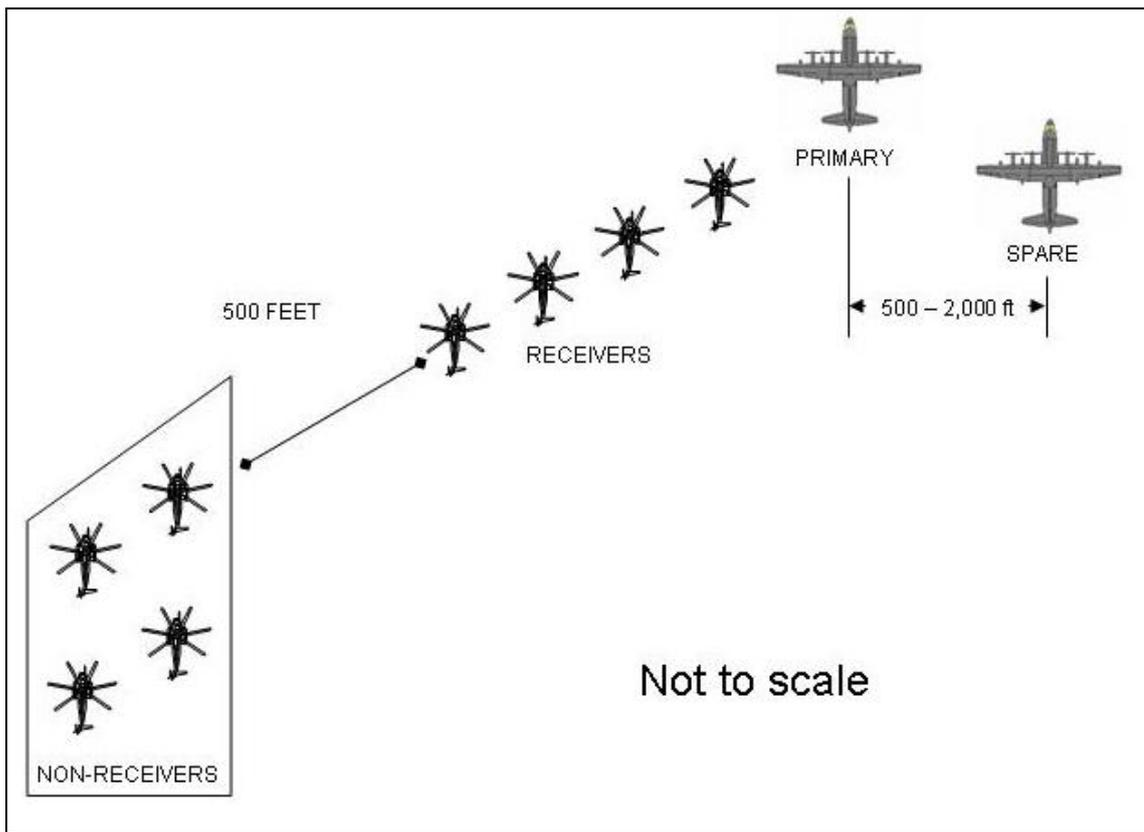

Figure 3-3. Helicopter AAR Formation Option 1
- b. **Tanker Formation Positions.** Tanker aircraft typically execute the RV using the trail formation. When employing formations of two or three aircraft, the No. 1 and No. 2 primary tankers assume the lead and dash 2 positions. If there is a spare tanker, it assumes the dash 3 position. When employing formations of four aircraft (two primary and two spares), the first element consists of the No. 1 primary tanker and No. 1 spare; the second element consists of the No. 2 primary tanker and No. 2 spare. See Figure 3-3.
- (1) **Method 1.** The tankers maintain formation until they approach the second helicopter element (trailing element). At this point, the No. 2 primary tanker (and spare, if applicable) drops out of the formation and completes the join-up on the trail helicopter element. The lead primary tanker (and spare, if applicable) continues forward to join-up on the lead helicopter element.
- (2) **Method 2.** Prior to the ARIP, the primary tankers establish spacing between themselves that is equal to the briefed spacing between helicopter elements. If one spare is available, it remains with the No. 2 primary tanker. If two spares are available, they remain with their respective primary. From this point, they execute individual join-ups on their respective elements.